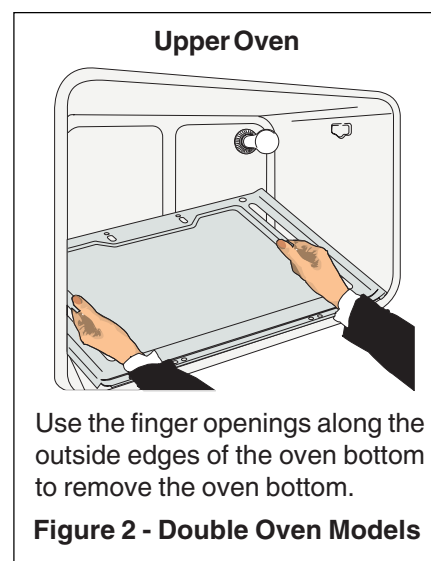

Figure 2 - Double Oven Models
3. Grab the door by the sides and pull the bottom of the door up and toward you to disengage the hinge supports. Keep pulling the bottom of the door toward you while rotating the top of the door toward the range to completely disengage the hinge levers (Figure 2).